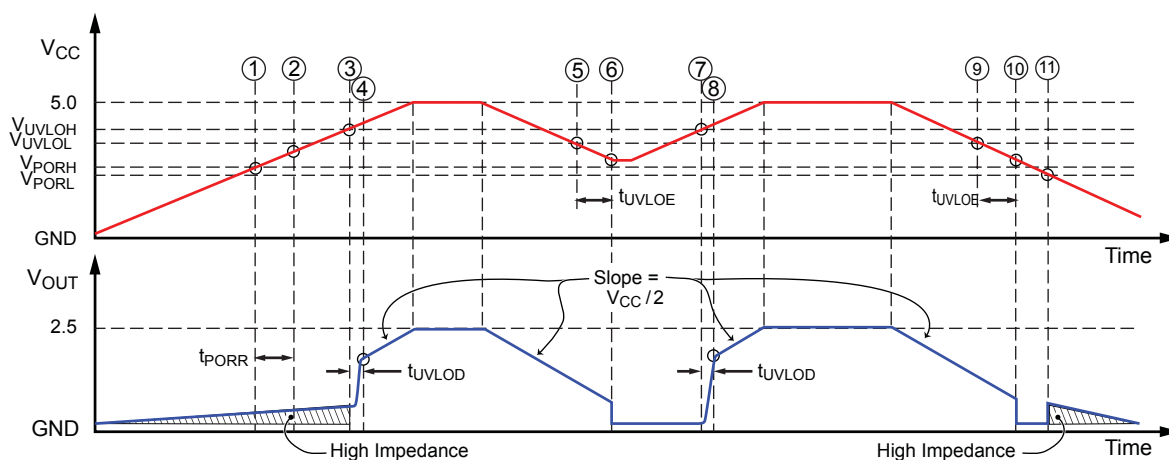
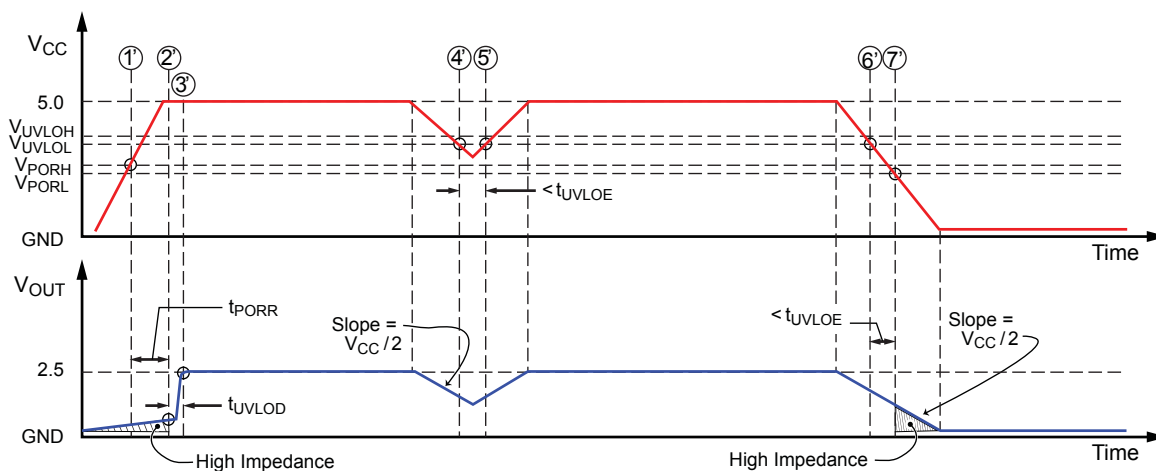

Figure 1. POR and UVLO Operation: Slow Rise Time case
Figure 2. POR and UVLO Operation: Fast Rise Time case
The reference numbers section refer to figures 1 and 2.
• **Power-Up** At power-up, as V_{CC} ramps up, the output is in a high impedance state. When V_{CC} crosses V_{PORH} (location [1] in figure 1 and [1'] in figure 2), the POR Release counter starts counting for t_{PORR} . At this point, if V_{CC} exceeds V_{UVLOH} [2'], the output will go to $V_{CC} / 2$ after t_{UVLOD} [3'].